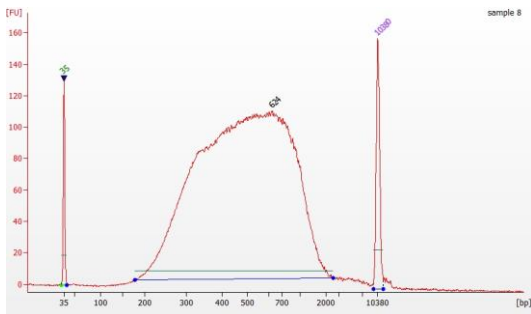

Figure 3 Agilent 2100 Bioanalyzer results of 200 ng gDNA ( dissolved in pH8.0 1xTE buffer )
**Note:** In the one-step magnetic beads size selection, the DNA sample loss can be as high as 30% to 60%. For the demo test, it is recommended to take 1  $\mu$ L of step 3.3.1.12 eluted product for Agilent 2100 High Sensitivity test (Figure 3), to make sure the peak size of the selected fragments about 600 bp to 750 bp. It should be noted that the peak size of the sequenced library is normally smaller than the peak size shown in the Agilent 2100 Bioanalyzer.